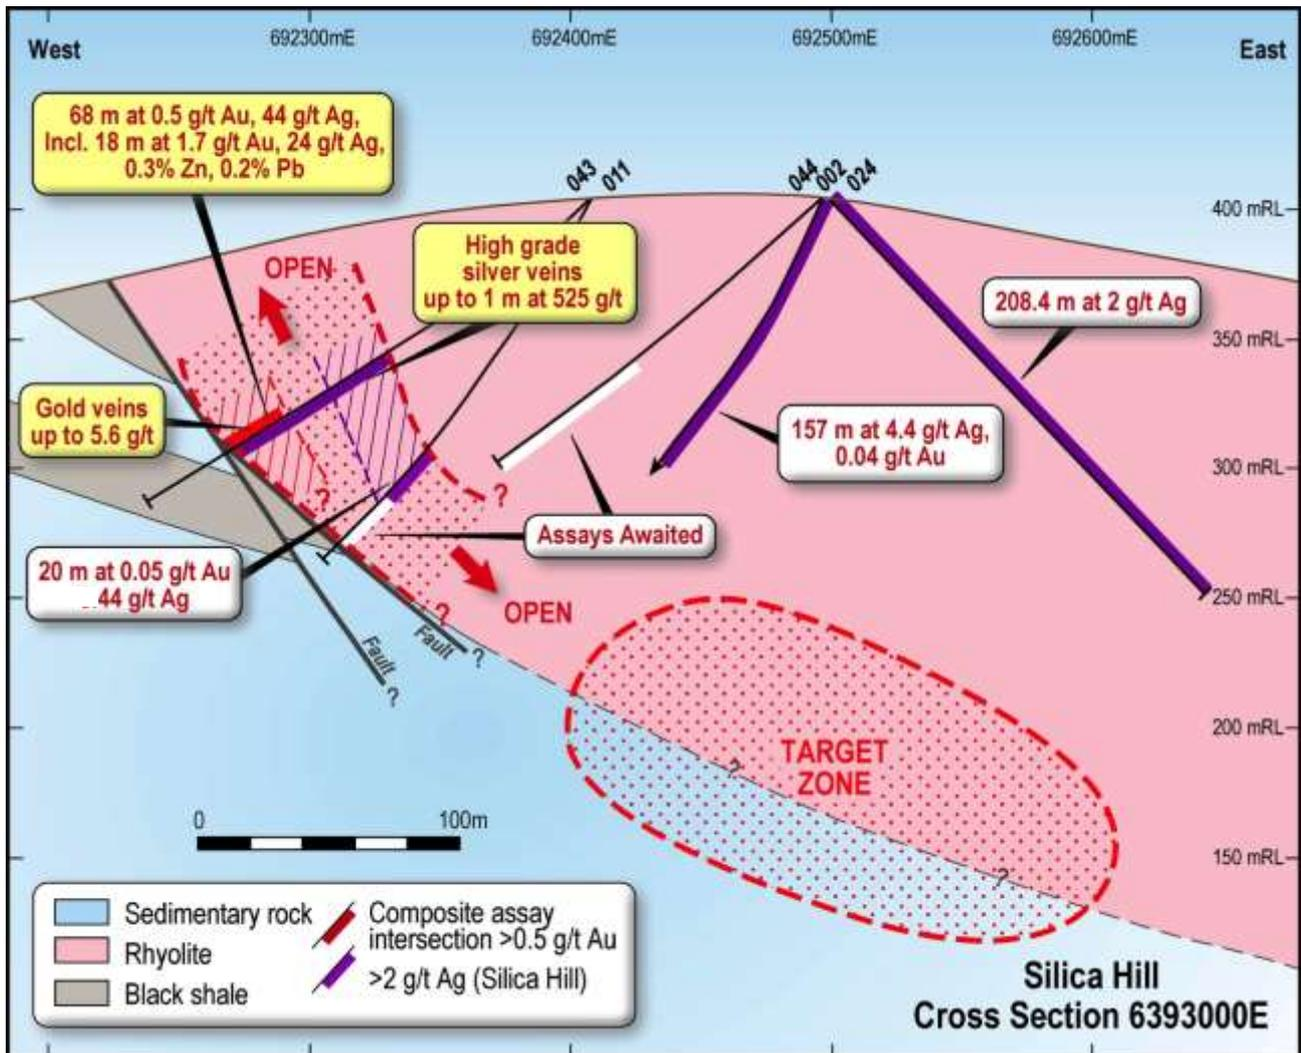

Figure 1. Interpreted cross section through Silica Hill
In addition, the mineralisation, which comprises disseminated sulphide, veins and semi-massive sulphide-veins intersected from 122 metres down hole, is between 40 metres and 60 metres away from the intercept in Hole CMIPT043 (Figures 1 and 2).
Detailed studies of Hole CMIPT011 including measurements with a handheld XRF instrument together with newly received assays for the lower part of the mineralised zone in Hole CMIPT043, have confirmed that the mineralisation is zoned and comprises an upper silver-rich zone and a lower gold-rich zone (Figure 1).
The first 20 metres of mineralisation in Hole CMIP011 were drilled by reverse circulation (RC) in a previous drill campaign and returned an intercept of 20 metres at 44 g/t (1.3 ounces) silver and 0.05 g/t gold with lesser base metals and associated pathfinder metals. It is interpreted that the hole did not intersect the lower gold-rich part of the mineralised zone (Figure 1).
Significant silver-gold mineralisation has now been defined by drilling over an area of 200 metres by 100 metres in dimension and down to 200 metres below surface. The mineralisation is open in all directions, including up-dip towards surface (Figures 1 and 2). It is evident that there is a large silver “halo” of up to 10-15 g/t in the Silica Hill rhyolite above the mineralisation (Figure 1). It is possible that this may be a “leakage halo” from depth and accordingly the down-dip extension of the mineralisation in Holes CMIPT043 and CMIPT011 is a compelling drill target (Figure 1). A down hole EM survey of Hole CMIPT011 will be completed before this target area is drilled.